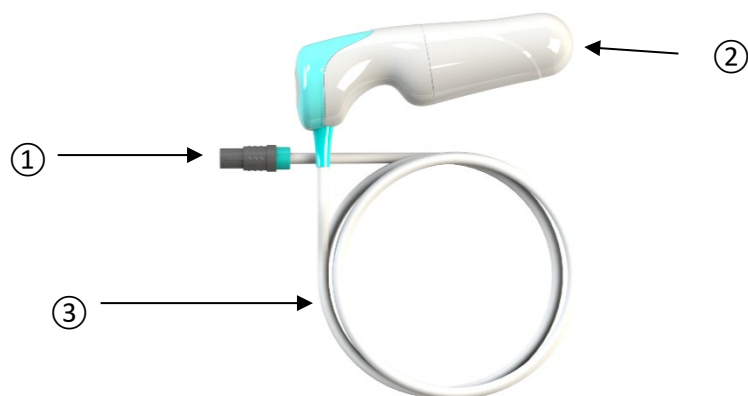

Figure 3-5 3D probe schematic diagram
3.3.3 3D probe schematic diagram, see Figure 3-5